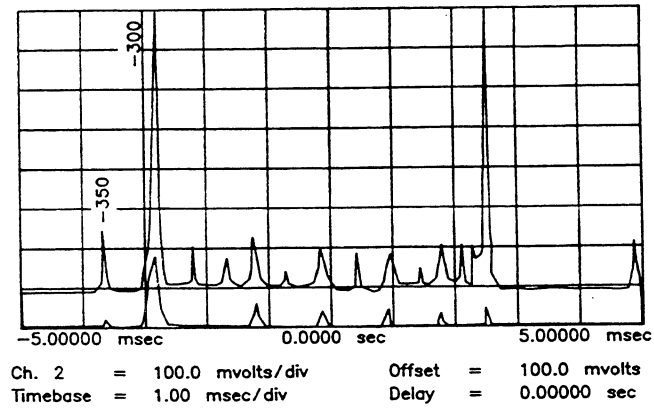

Figure 5-19. Frequency Response of Notch Filters, 1015 MHz Setting.
14. Set the Signal Generator to a frequency of 1015 MHz and observe the oscilloscope Chan 2 display. The beat note levels should resemble those shown for channel 2 in Figure 5-19. Adjust A4C85 to maximize the 300 MHz beat note while keeping the 350 MHz beat note at a minimum.